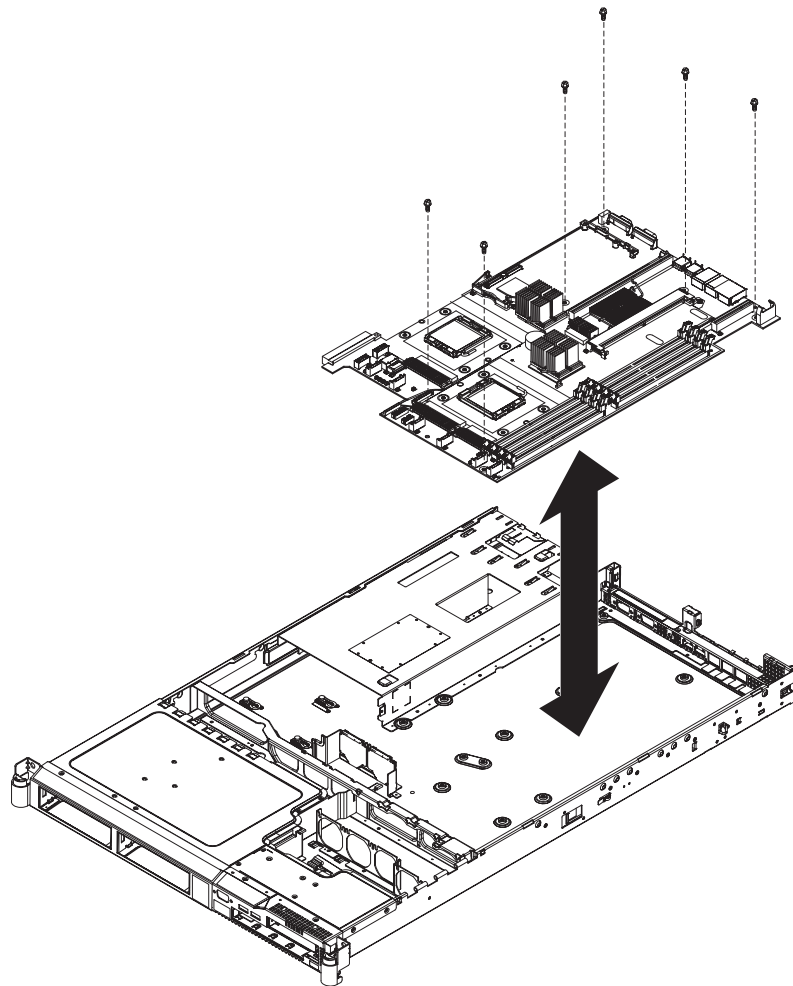

Figure 205. The placement of the screws that secure the SAN Volume Controller 2145-8G4 system board
19. Remove the six screws on the system board, as shown in Figure 205, that secure the system board to the chassis.